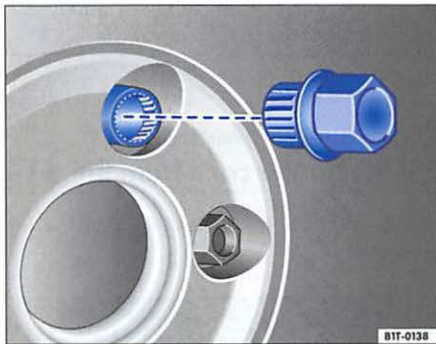

Fig. 25 Changing a wheel: anti-theft wheel bolt and adapter
- Slide the adapter ⇒ page 84, fig. 25 as far as possible onto the anti-theft wheel bolt.